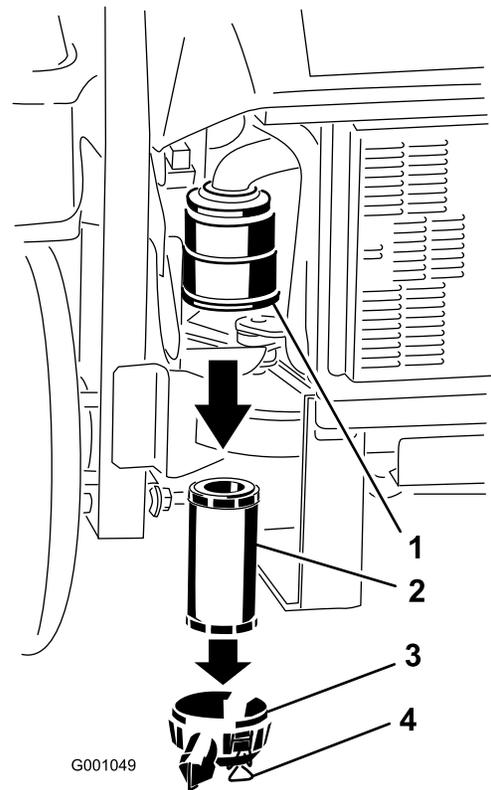

Figure 58
3. Release the latches on the air cleaner and pull the air-cleaner cover off the air-cleaner body (Figure 58).
5. Gently slide the filter out of the air-cleaner body (Figure 58).